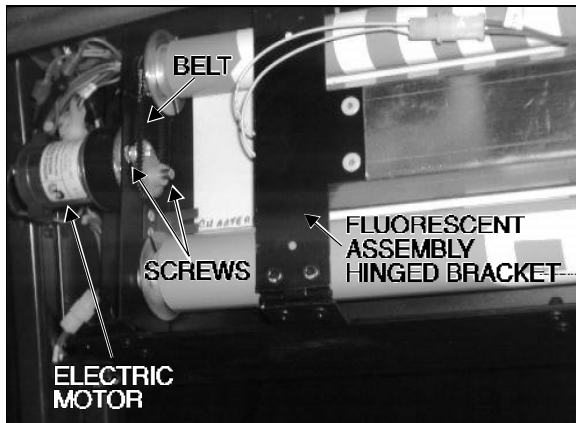

FIGURE 21: DESTINATION SIGN
2. Remove both Phillips-head screws, one on each fluorescent assembly hinged bracket (see fig. 21), then lower assembly.
2. Remove both screws retaining motor to destination sign frame (see fig. 21).